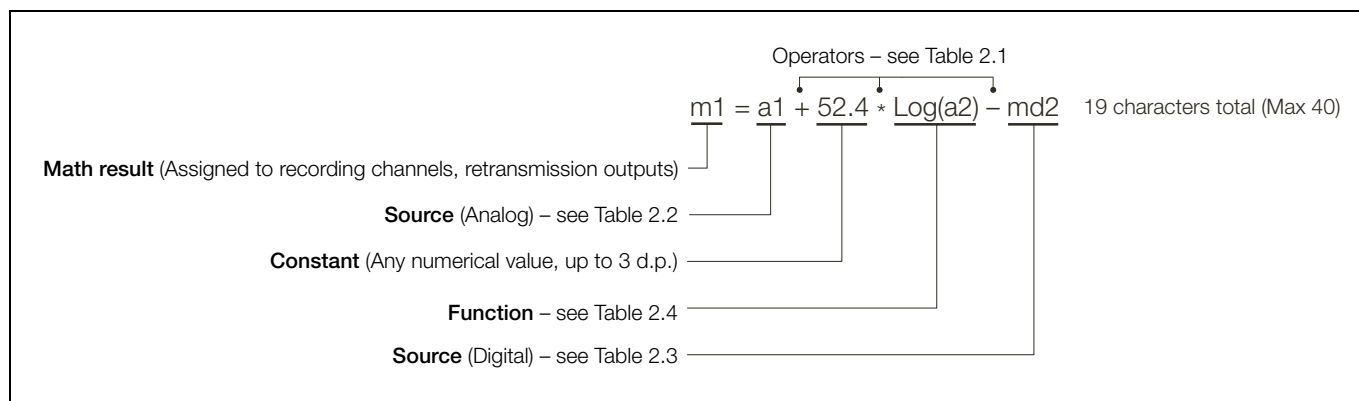

Fig. 2.1 Typical Math Block
2.2 Typical Math Block – Fig. 2.1
Each math block comprises any number of sources, constants, operators and functions, to a maximum length of 40 characters, – see Fig. 2.1, page 4.